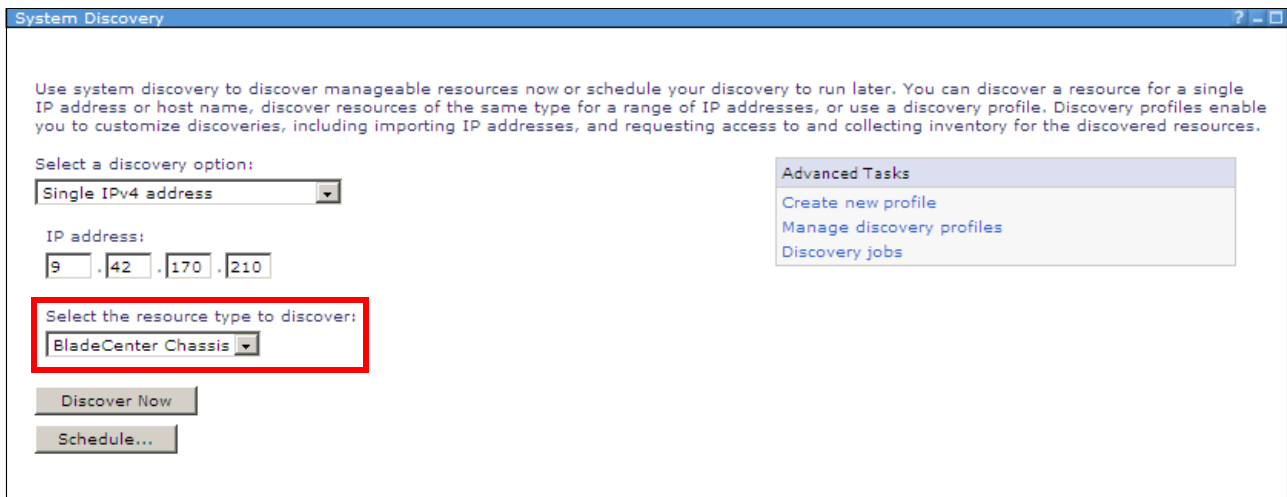

Figure 9-29 Selecting the correct resource type to discover a BladeCenter chassis
4. In the Select the resource type to discover list box, make sure that you select **BladeCenter Chassis** as the resource type. This selection allows IBM Systems Director to use the correct discovery protocols to locate the chassis, as shown in Figure 9-29.